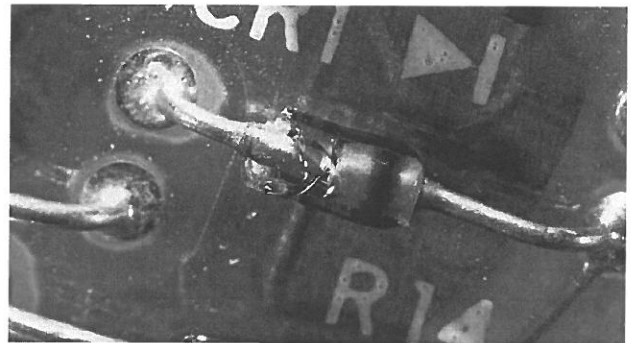

Figure 9-21
- Chip or crack that exposes the component substrate or active element, or affects hermeticity, integrity, form, fit, or function; Figures 9-17,18,19,20. Chips or cracks in glass body, Figures 9-21,22.